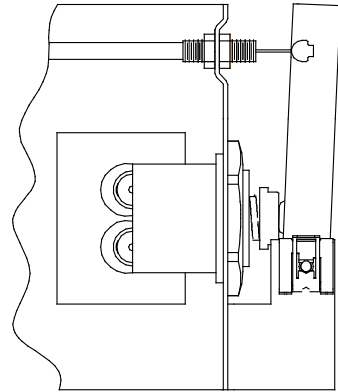

FIG. 3
3. Remove cable free play by adjusting the jam nuts on the ends of the operating cable. See Figure 3.